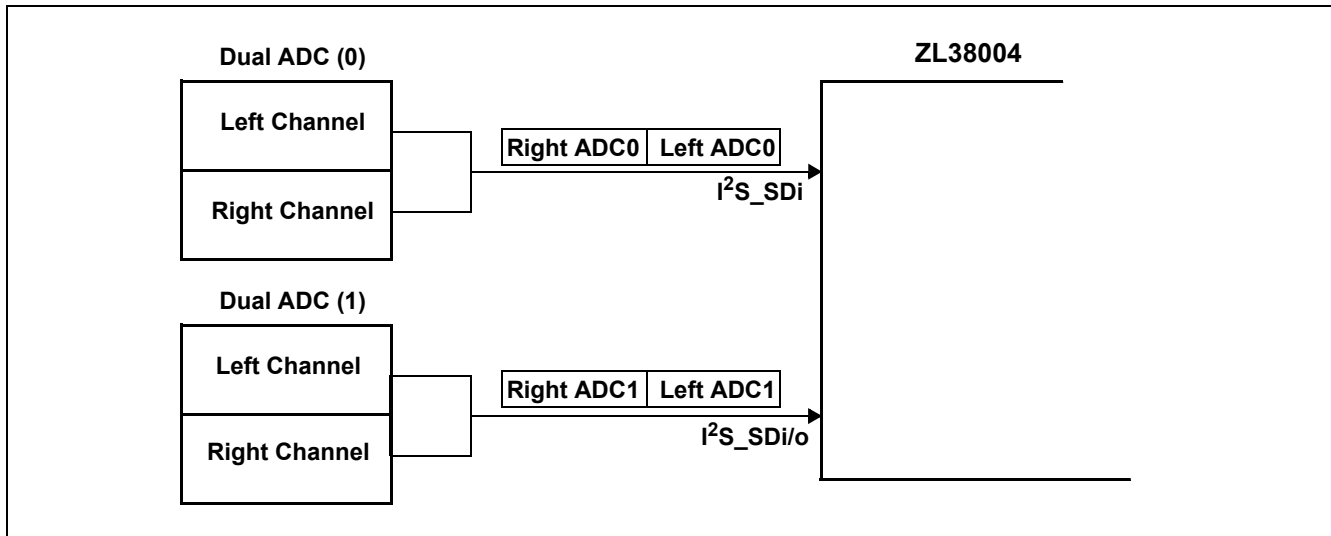
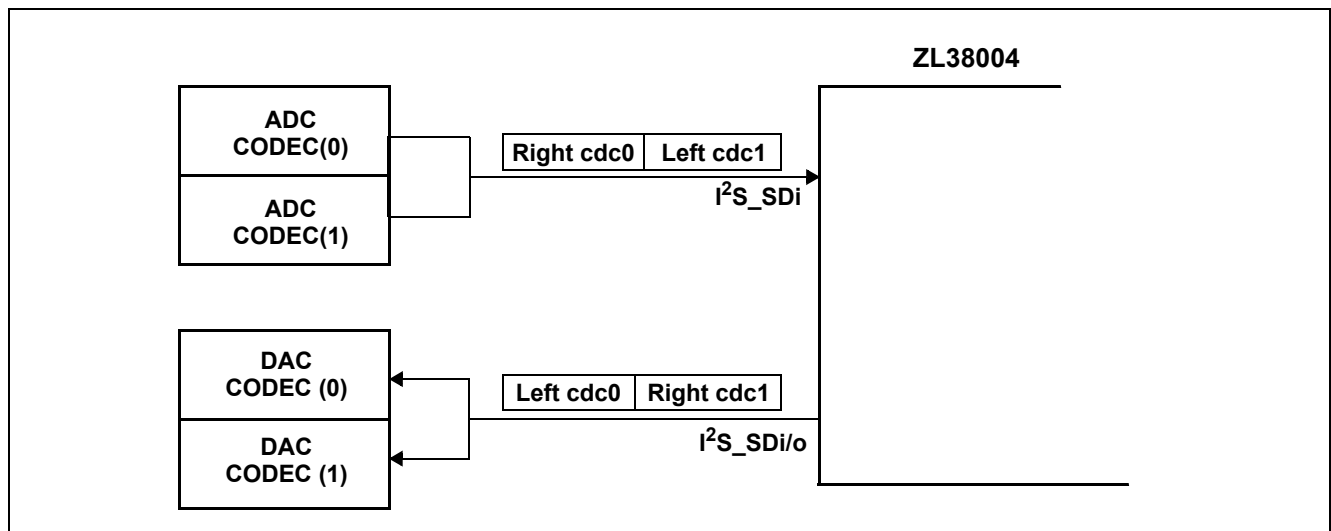

Figure 20 - Dual Analog-to-Digital Converter Configuration
Figure 21 - Dual CODEC Configuration
The I²S interface can support two dual channel Analog-to-Digital Converters (Figure 20) or one dual channel CODEC (Figure 21). In Figure 20 pin I²S_SDi/o is configured as an input (control bit I²SSDi/oSel = 0) so that the four 16-bit channel processing capacity of the DSP is spread across the two input channels from Dual ADC (0) plus the two input channels from Dual ADC (1). See Firmware Manual for I²S port setup.
In Figure 21 pin I²S_SDi/o is configured as an output (control bit I²SSDi/oSel = 1) so that the four 16-bit channel processing capacity of the DSP is spread across the two input channels from the ADCs of CODEC(0) and CODEC(1), as well as the two output channels from the ADCs of CODEC(0) and CODEC(1). See Firmware Manual for I²S port setup.